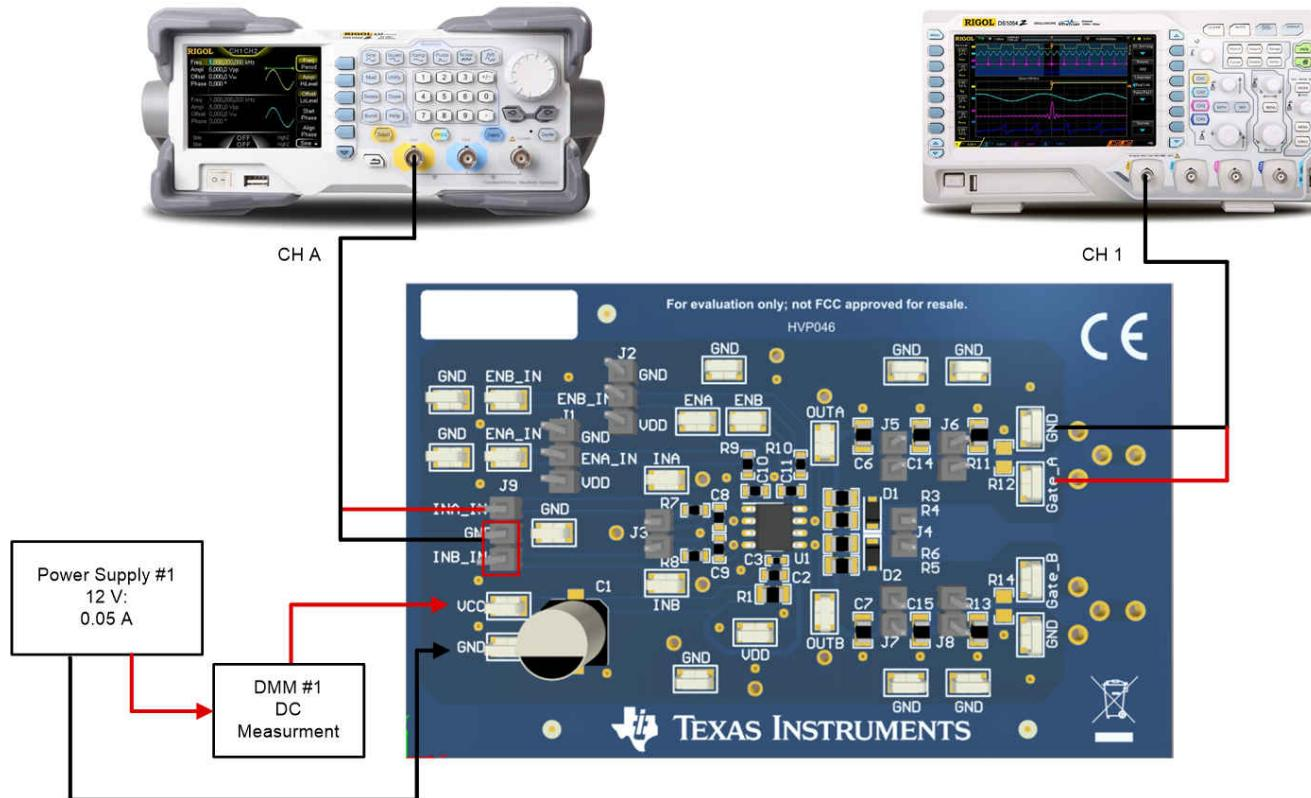

Figure 4-1. Bench Setup Diagram and Configuration
This procedure details how to configure the UCC27614EVM evaluation boards. Within this test procedure, the following naming conventions are applied. See the *UCC27614EVM Bench Setup Diagram and Configuration, Figure 4-1*, for details.
Use the following connection procedure, refer to Figure 4-1.
1. Before beginning the power up test procedure, verify the connections with Figure 4-1.